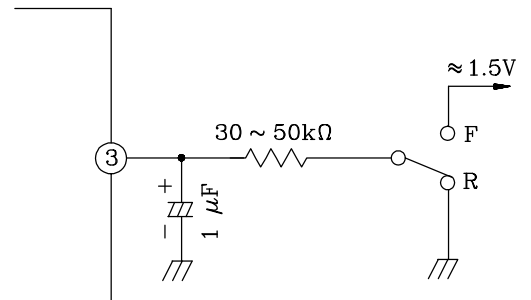

Fig. 2
(2) The recommended Forward, Reverse Select circuit is shown in Fig.2.